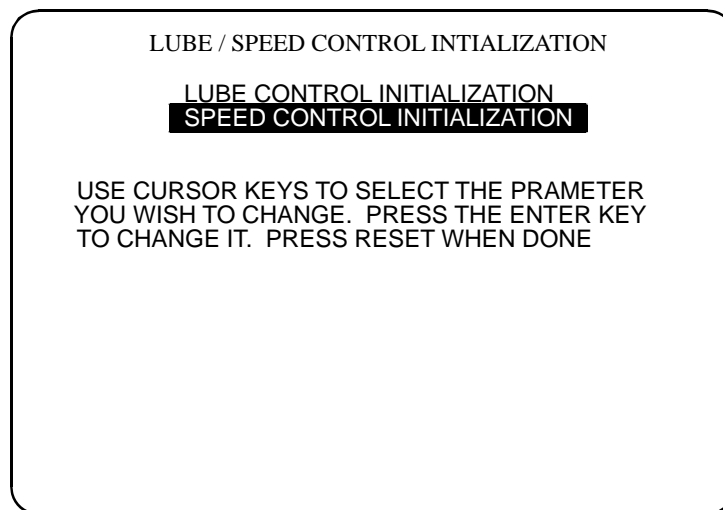

Figure 4-1. Lube / Speed Control Initialization
3. The next screen will be **LUBE/SPEED CONTROL INITIALIZATION** (Figure 4-1)